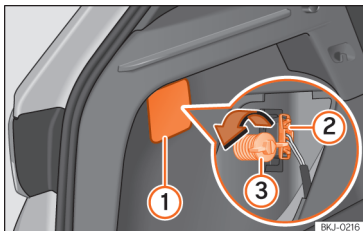
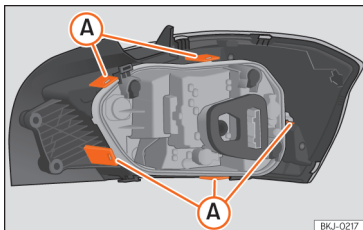

Fig. 164 Boot: access to the bolt securing the tail light unit.
Fig. 165 Retaining tabs on reverse side of tail light.
- Remove the lid, levering the flat side of a screwdriver into the recess >>> **Fig. 164** ①.
- Remove the bulb connector ②.
- Unscrew the bolt securing the light ③ by hand or using a screwdriver.
- Remove the bulb holder unlocking the retaining tabs >>> **Fig. 165** A.